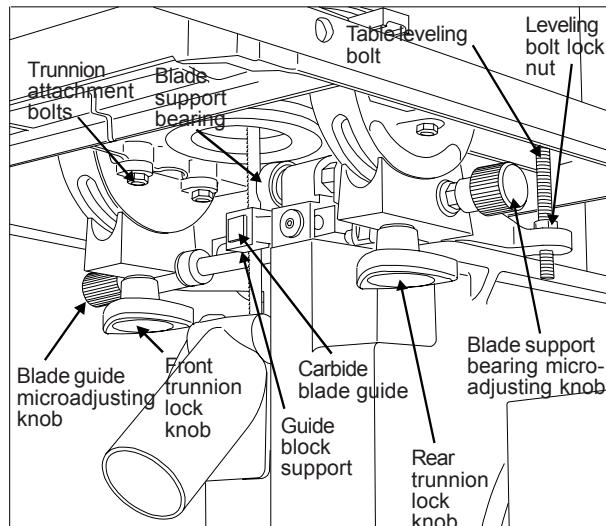

Figure 12. Lower Blade Guide Support
- If the measurements are not equal at both ends of the slot, loosen six bolts securing the table to the table trunnions (see *Figures 12 and 13*.)
17. Using the micro-adjusting knob, move the lower blade support assembly (*Refer to Figure 12*) forward until the support bearing just contacts the back edge of the saw blade.